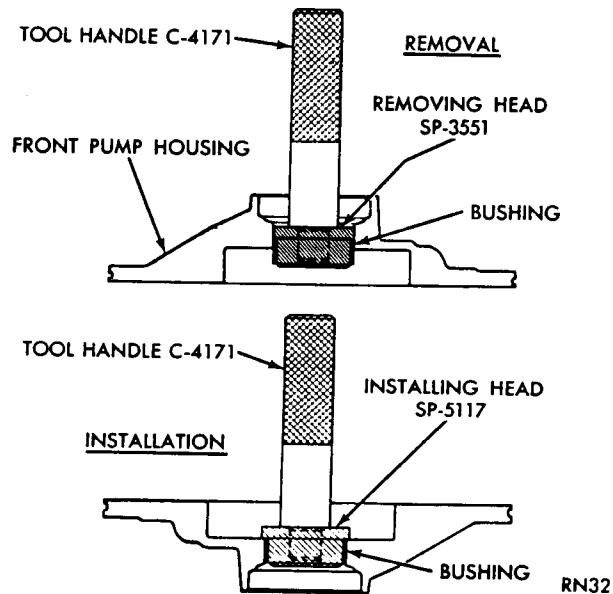
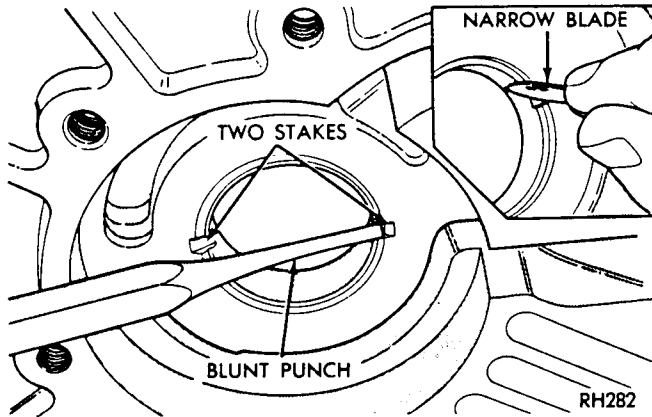

Fig. 10—Replace Pump Bushing (A-904T and A-999)
Fig. 11—Stake Pump Bushing (A-904T and A-999)
- (1) Place pump housing (seal face down) on a smooth, firm surface.
- (2) Place removing head, Tool SP-3551 in bushing and install handle Tool C-4171 in removing head (Fig. 10).
- (3) Drive bushing straight down and out of pump housing bore. Be careful not to cock tool in the bore.
- (4) Position new bushing on installing head Tool SP-5117.
- (5) With pump housing on a smooth, clean surface, start bushing and installing head in the bushing bore. Install handle in the installing head (Fig. 10).
- (6) Drive bushing into housing until tool bottoms in the pump cavity. Be careful not to cock tool during installation.
(7) Stake bushing in place by using a blunt punch or similar tool (Fig. 11). A gentle tap at each stake slot location will suffice.
(8) Using a narrow-bladed knife or similar tool, remove high points or burrs around staked area (Fig. 11). Do not use a file or similar tool that will remove more metal than is necessary.